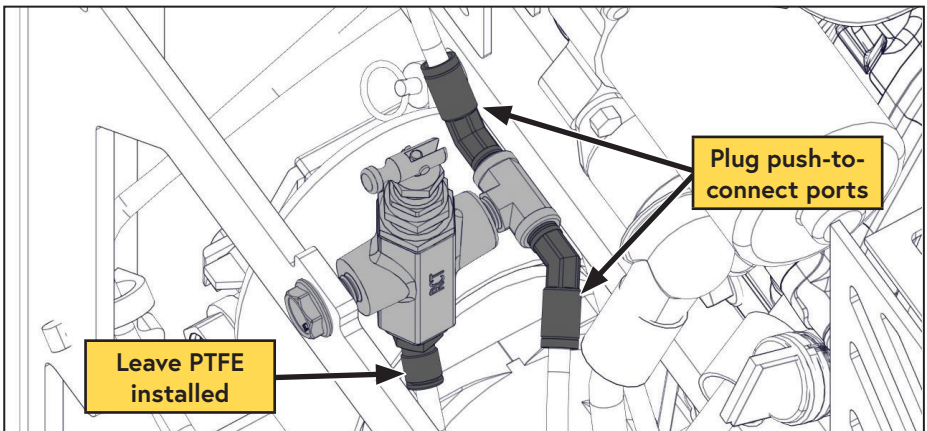

Figure 42 — Plug unloader valve
- ☐ Plug both sides of the Tee that the push-to-connect fittings are installed in (leave the PTFE tube plugged into the bottom push-to-connect fitting) (Figure 42).
- ☐ Remove the 1/4 in NPT plug from the unloader valve and install the push-to-connect fitting (Figure 42).